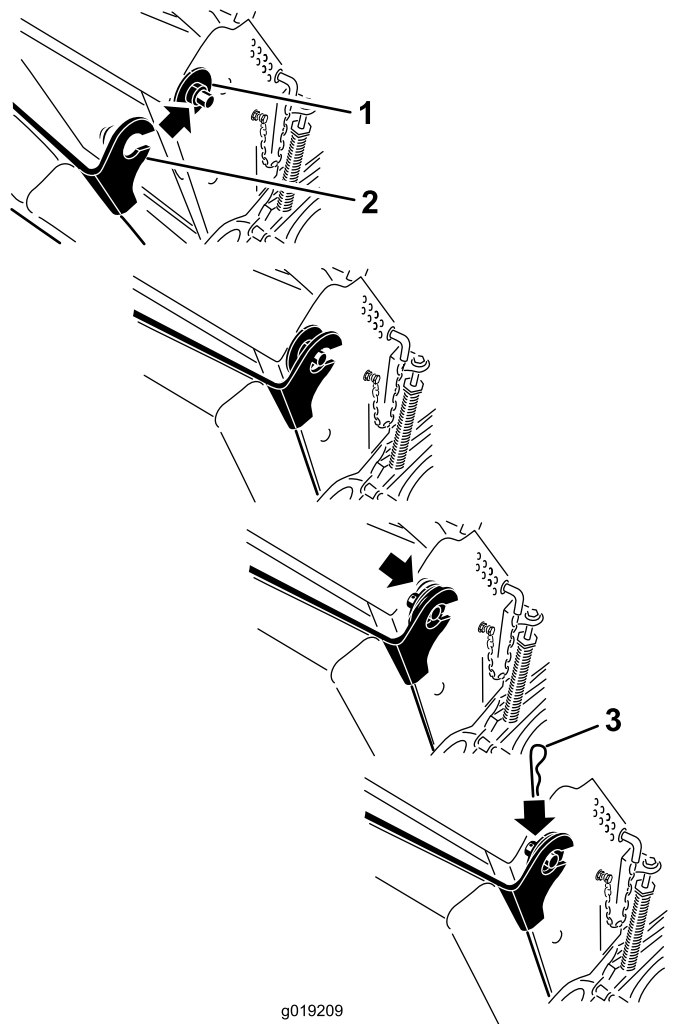

Figure 37
6. Raise the cushion and slide it onto the pins on both sides of the machine (Figure 37).
7. Slide the large washers with the plastic bushings into the cushion bracket, and secure them with a hairpin-cotter pin (Figure 37).